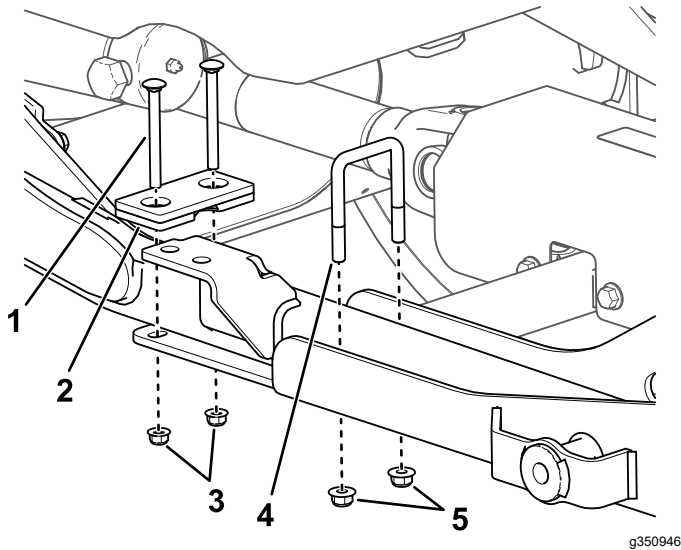

Figure 12
2. Lower the lift arms into the mounting assembly as shown in Figure 12, then engage the traction unit parking brake, shut off the engine, remove the key, and wait for all movement to stop.
3. Secure the rear of the lift arms to mounting assembly using the provided U-bolts, stop plates, carriage bolts and locknuts (Figure 12).